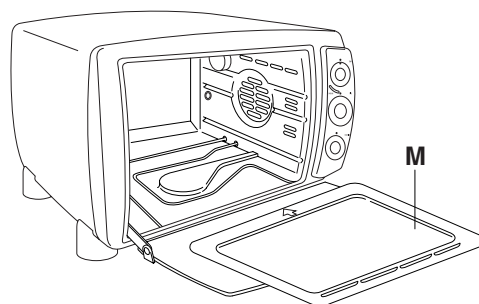

fig. 11
Remove the crumb tray (M) by pulling it outwards (see Fig. 11). In case of difficulty, wet the outside parts of the tray. Remove any dirt with a damp cloth. Dry thoroughly and then **put the tray back in place.**